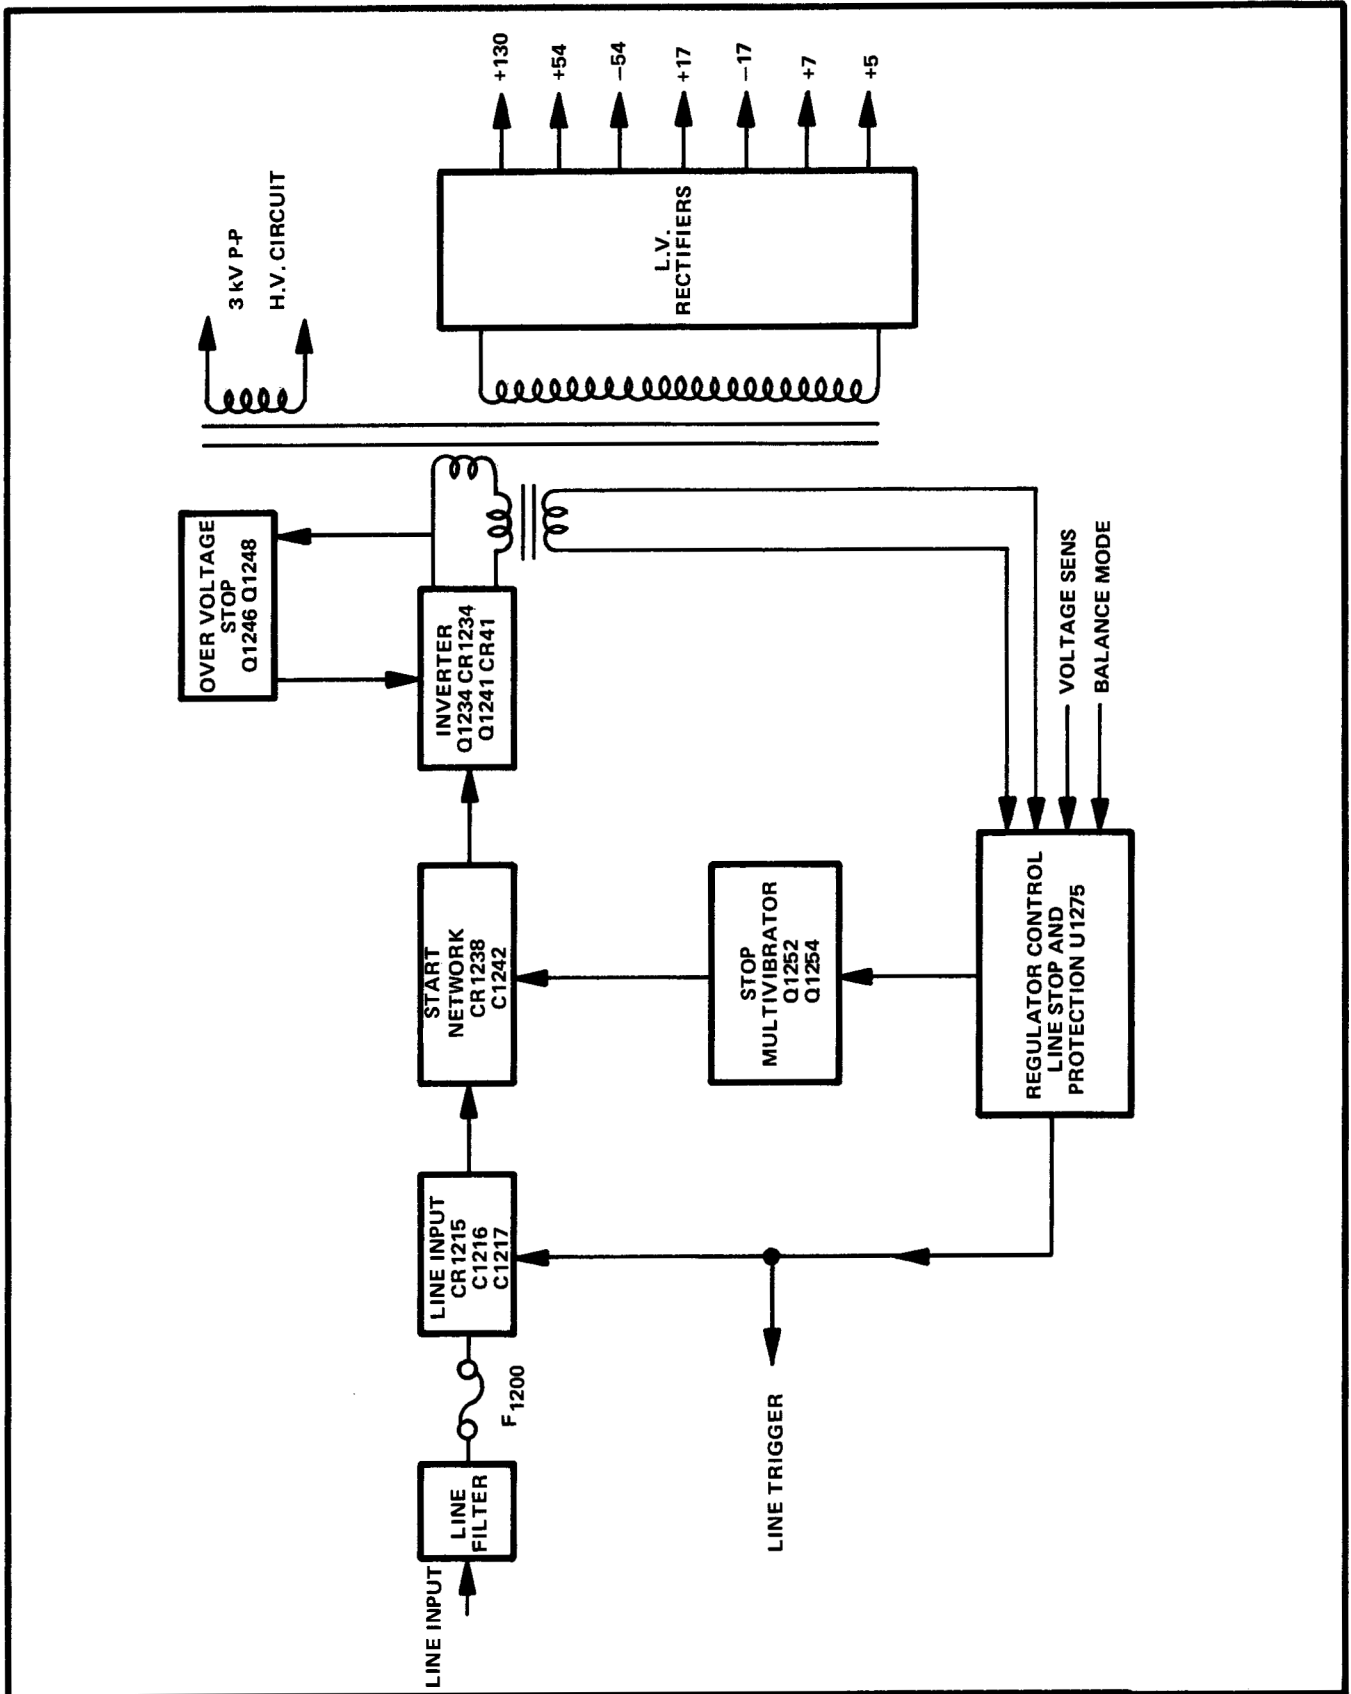

Fig. 3-13. Inverter/Regulator Power Supply Block Diagram.
**General.** The Power Inverter/Regulator circuit provides the operating power for this instrument from a line voltage source or DC voltage source. This circuit also includes the Line Voltage Selector switch to allow for selection of a 115 V or 230 V nominal operating voltage. Fig. 3-13 shows a block diagram of the Power Inverter/Regulator circuit. A schematic is shown on diagram 9 at the rear of this manual.